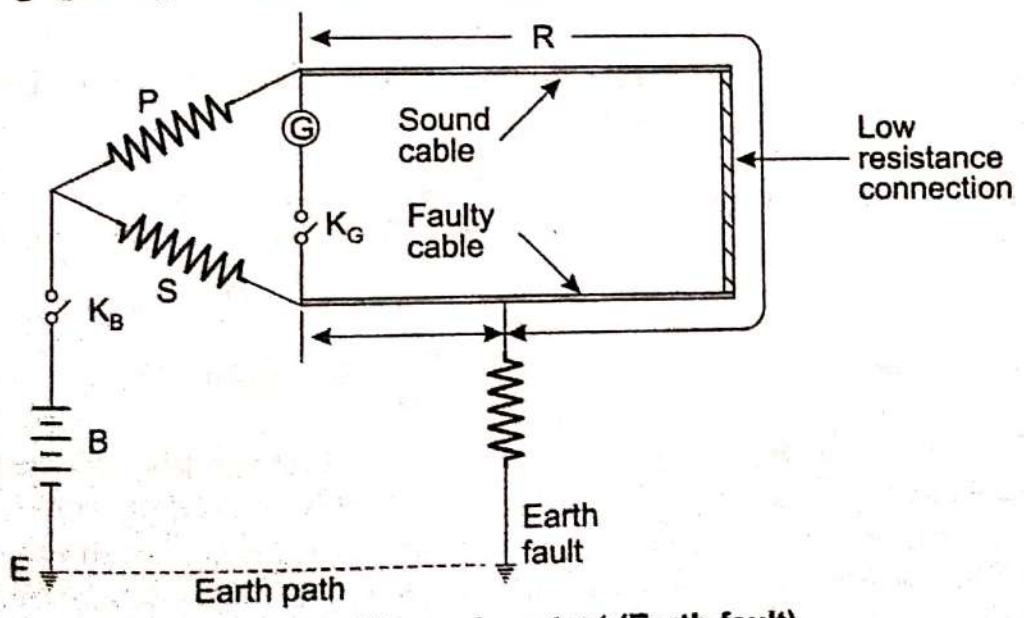

Fig 6.8. Murray loop test (Earth fault)
1. Murray loop test : The connection diagram to locate earth fault and short-circuit faults by Murray loop test method are shown in Fig. 6.8 and 6.9 respectively. As already said, Wheatstone bridge principle is used in these tests.